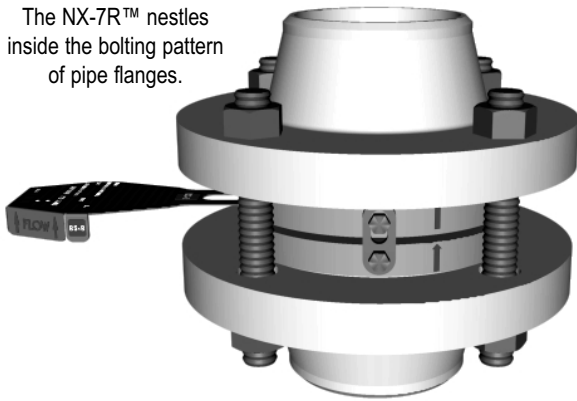

Figure 2
1. Insert Safety Head assembly into pressure system between companion pipe flanges. The Quik-Sert™ centers inside the bolting pattern of pipe flanges. (Refer to Figure 2).